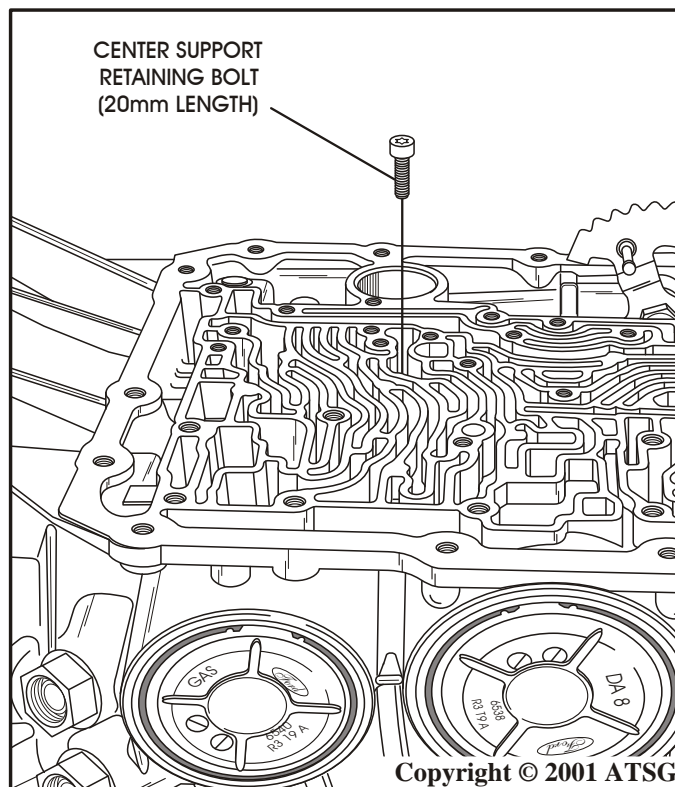

Figure 157
40. Loosely install the center support retaining bolt as shown in Figure 157.